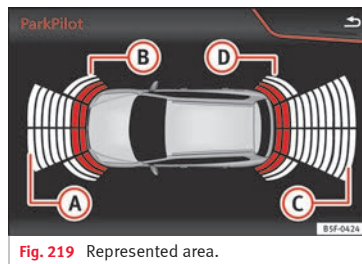

Fig. 219 Represented area.
If there is a fault in a sensor, the symbol ⚠ is displayed on the Easy Connect display in front of/behind the vehicle. If a rear sensor is faulty, only the obstacles in the areas (A) and (B) are displayed » » Fig. 219. If a front sensor is faulty, only the obstacles in the areas (C) and (D) are displayed.